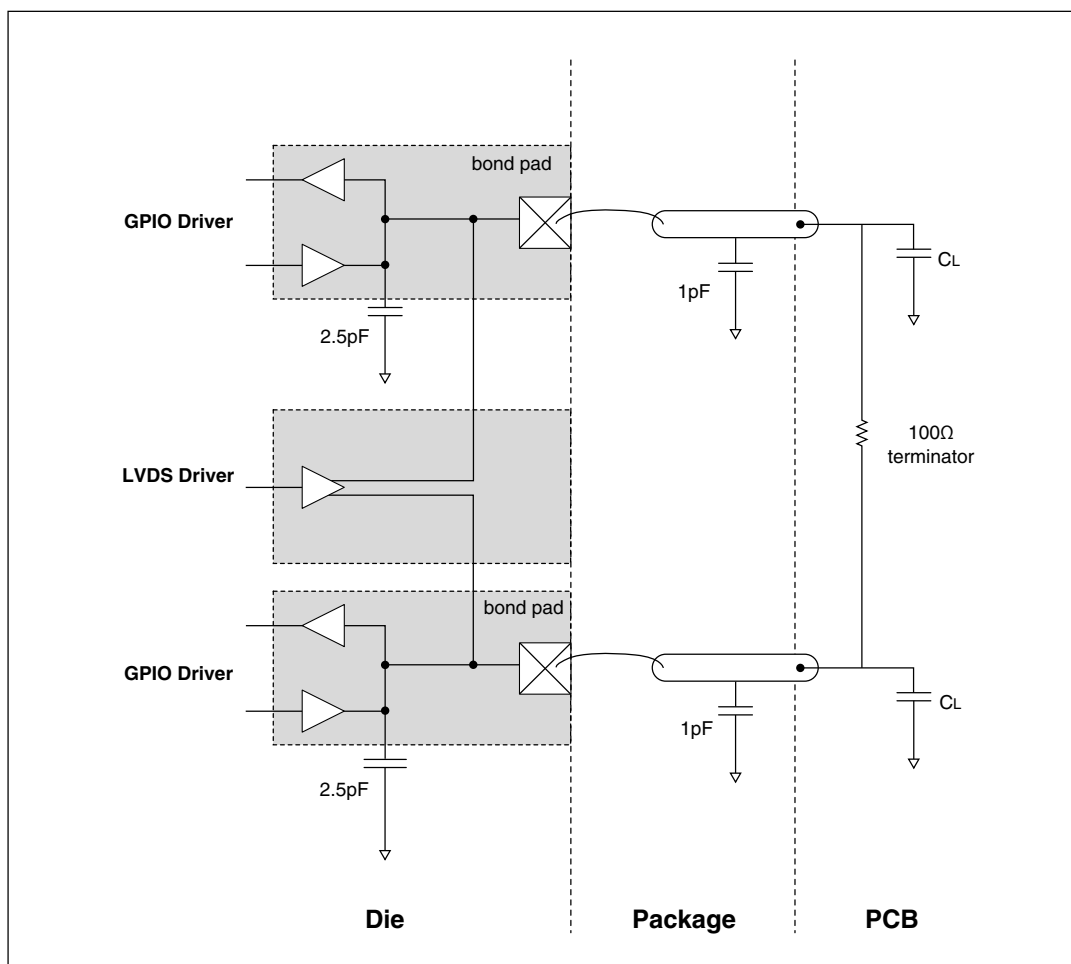

Figure 11. LVDS pad external load diagram
- Total internal capacitance including receiver and termination, co-bonded GPIO pads, and package contributions. For bare die devices, subtract the package value given in Figure 11.
1. The LFAST pad electrical characteristics are based on worst-case internal capacitance values shown in Figure 11.
2. Valid for maximum data rate fDATA. Value given is the capacitance on each terminal of the differential pair, as shown in Figure 11.
1. The MSC and DSPI LVDS pad electrical characteristics are based on the application circuit and typical worst-case internal capacitance values given in Figure 11.
4. Measured at the transmitter output across a 100 Ohm termination resistor on a device evaluation board. See Figure 11.